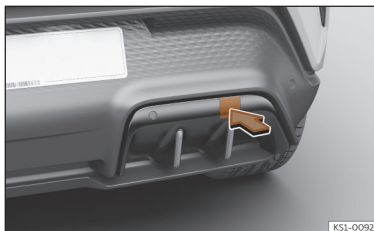

Fig. 187 Rear bumper on right: remove the lid.
>>> Fig. 187.
- Press the upper side of the lid >>> Fig. 187 to unclip it.